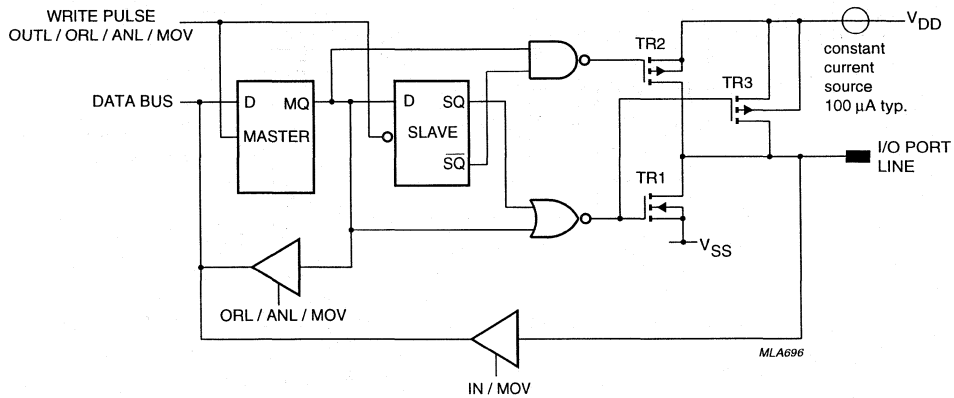

Fig.11 Standard output with switched current source.
The standard port configuration is illustrated in Fig.11. When a logic 0 is written to the master/slave flip-flop, TR2 and TR3 are both in the OFF condition. TR1 turns ON and drives the output to V_{SS} .
1. Standard Port; quasi-bidirectional I/O with switched pull-up current source of 100 μ A (typ.) and p-channel booster transistor TR2. TR2 is only active for 1 clock cycle during LOW-to-HIGH transitions (see Fig.11).